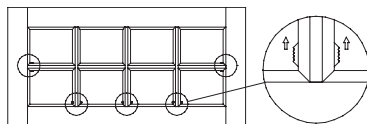

Fig. 1
1. Squeeze the clips and slide them toward the center of the window (Fig. 1).